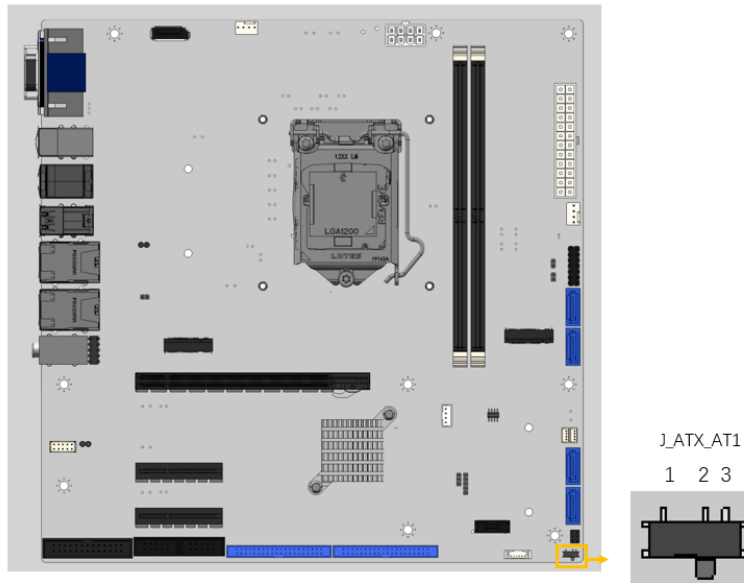

Figure 3-5: AT/ATX Power Mode Switch Location
- CN Location:** See Figure 3-5